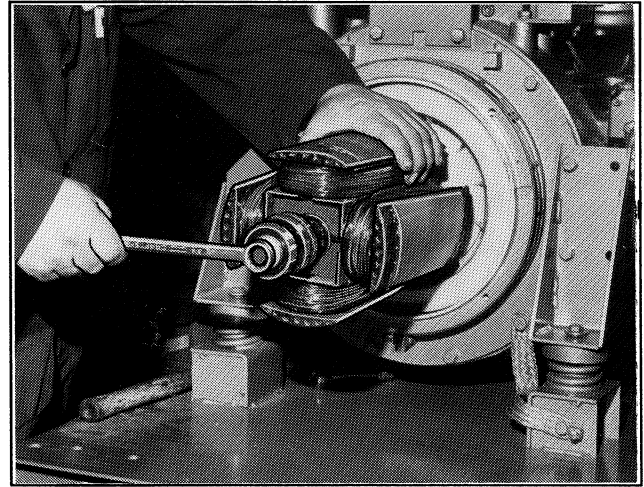

Figure 8-9. Removing Rotor Thru-Bolt
16. On 9 and 12.5kW models, loosen rotor thru-bolt several turns by rotating counterclockwise while holding rotor stationary. Figure 8-9. To separate the rotor from the taper, strike the bolt head with a heavy lead mallet. After loosening rotor, remove thru-bolt and pull rotor away from engine. The generator fan remains attached to the rotor.